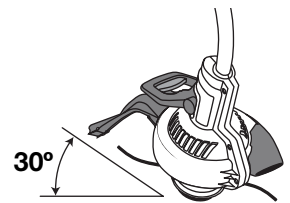

Fig. 9
- If the shift handle is in the DOWN position, grasp the red shift latch (Fig. 9) on the shift handle and squeeze until the internal locking mechanism releases.
Decorative trimming is accomplished by removing all vegetation around trees, posts, fences and more. Rotate the whole unit so that the cutting attachment is at a 30° angle to the ground (Fig. 9).